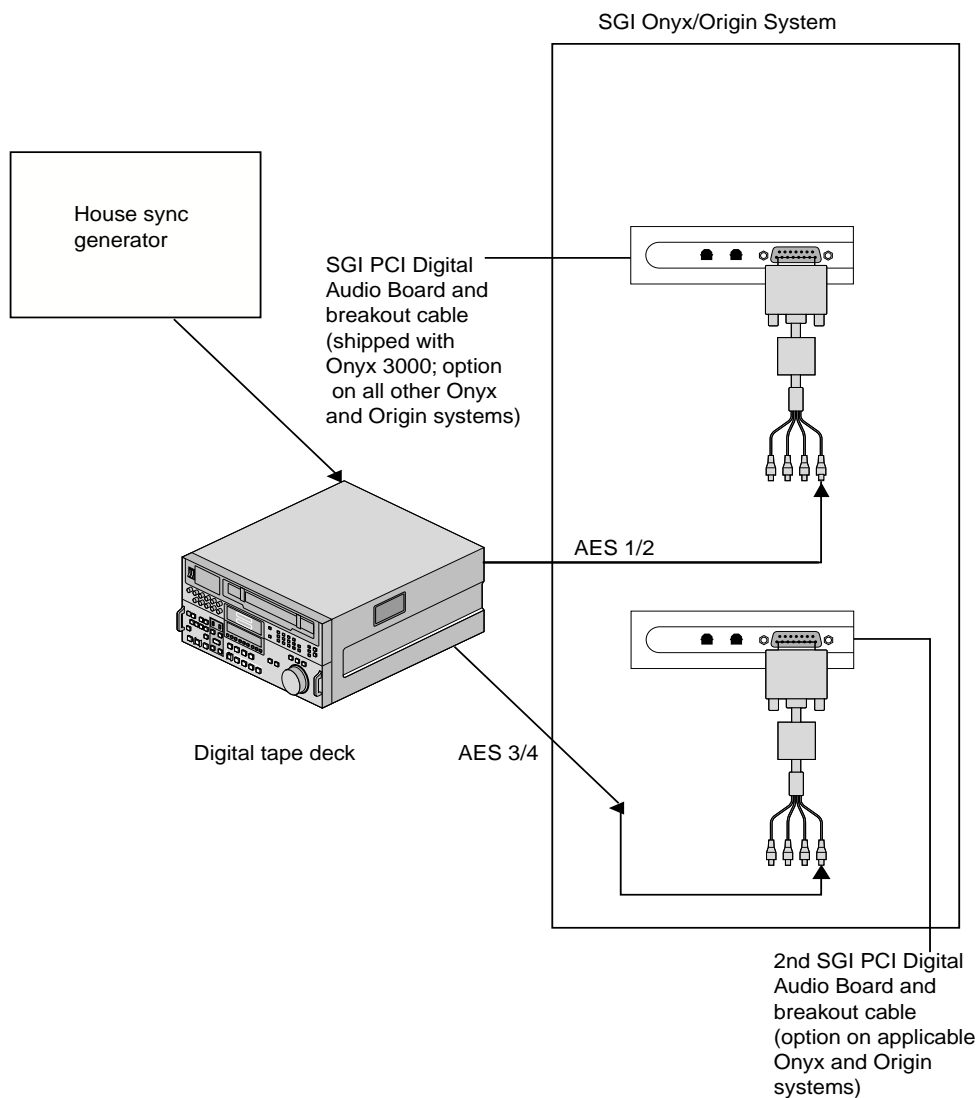
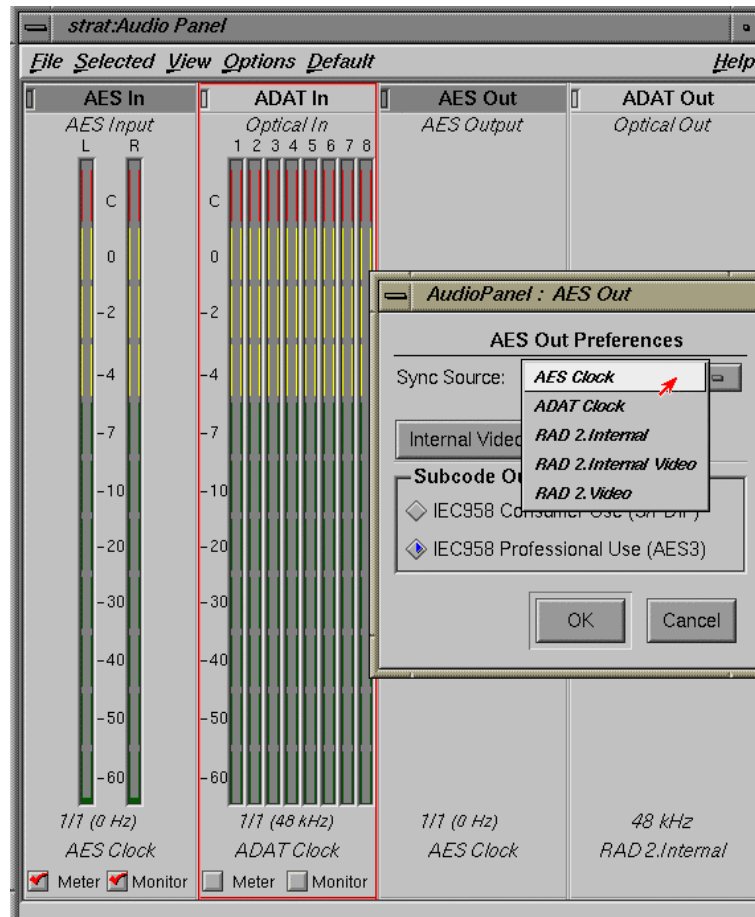
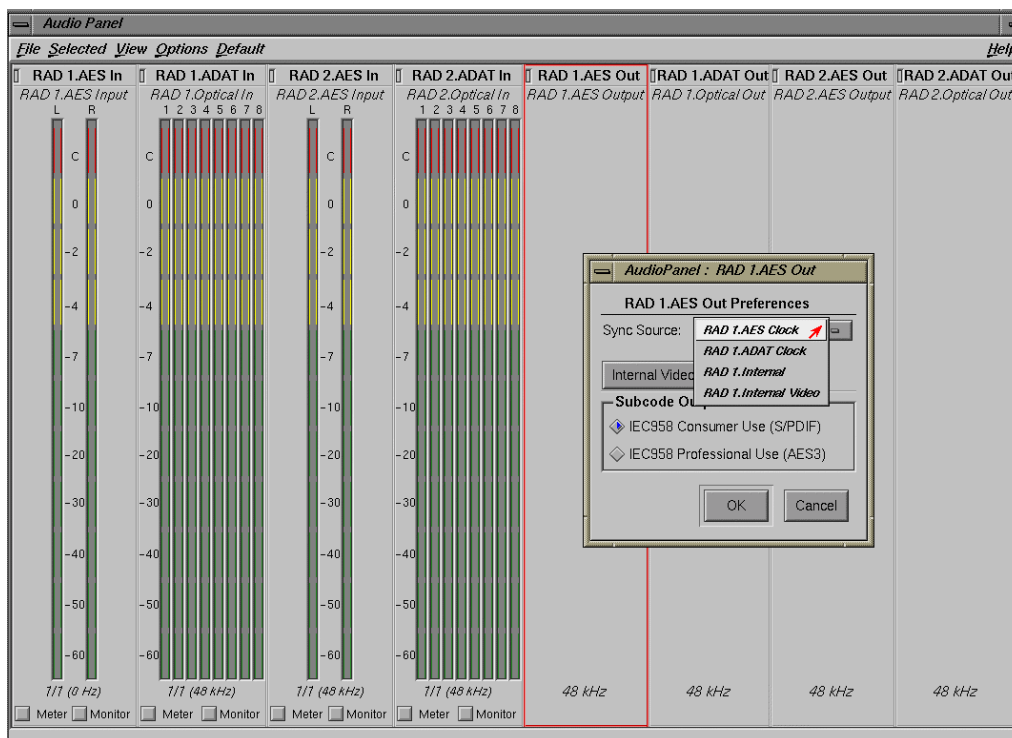
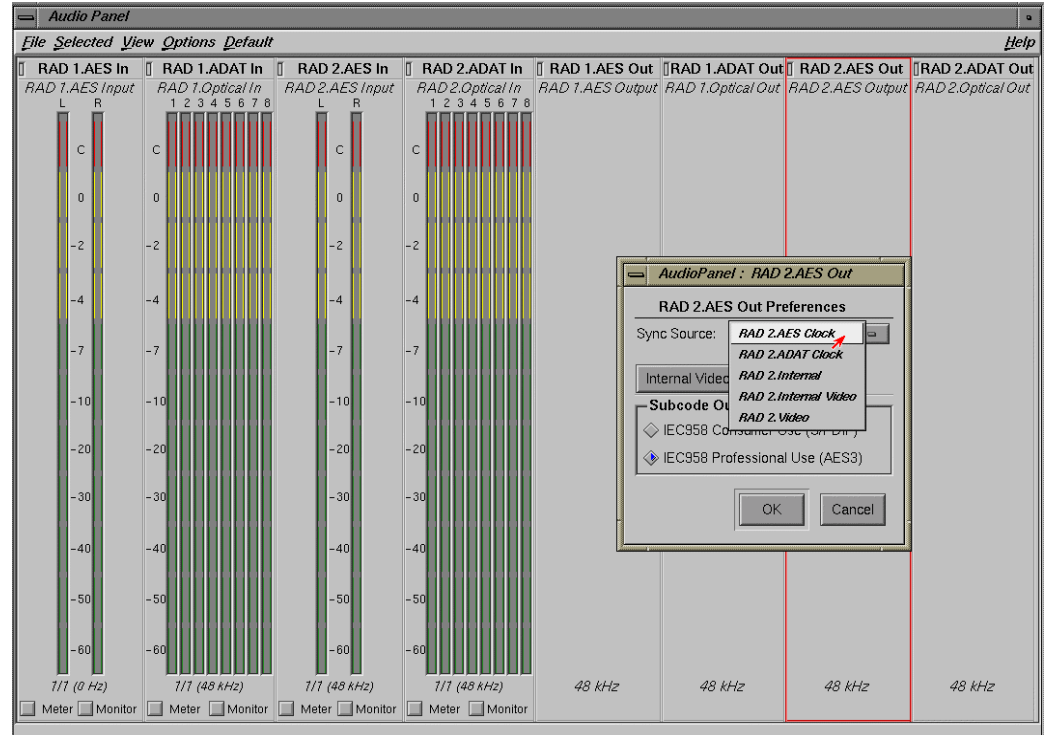

Figure 4-2 Synchronizing Audio on Onyx and Origin Systems
Figure 4-5 Synchronizing a Single PCI Digital Audio Board on an Onyx or Origin System
Figure 4-6 Synchronizing Two PCI Digital Audio Boards on an Onyx/Origin System (RAD 1.AES Out Preferences)
Figure 4-7 Synchronizing Two PCI Digital Audio Boards on an Onyx/Origin System (RAD 2.AES Out Preferences)
1. Connect a house sync generator to a digital tape deck, as shown in Figure 4-2.
- Connect the AES 3/4 output on the digital tape deck to the breakout cable's AES input connector (red wire) on the second board (see Figure 4-2).
The example in Figure 4-5 shows how to set up the single board configuration shown in Figure 4-2 for an Onyx or Origin system.
The example in Figure 4-6 shows how to set up the RAD 1.AES Out Preferences for the two-board configuration (Figure 4-2) on an Onyx or Origin system.
The example in Figure 4-7 shows how to set up the RAD 2.AES Out Preferences for the two-board configuration (Figure 4-2) on an Onyx or Origin system.